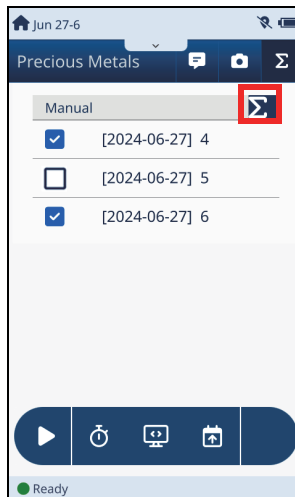

Figure 3-6 Live View — Results 2 and 4 excluded
2. Tap one or more of the check-boxes to exclude those results from the averaging calculations (see Figure 3-6 on page 112).
3. Tap the **Average** button () above the list to begin averaging (see Figure 3-6 on page 112).